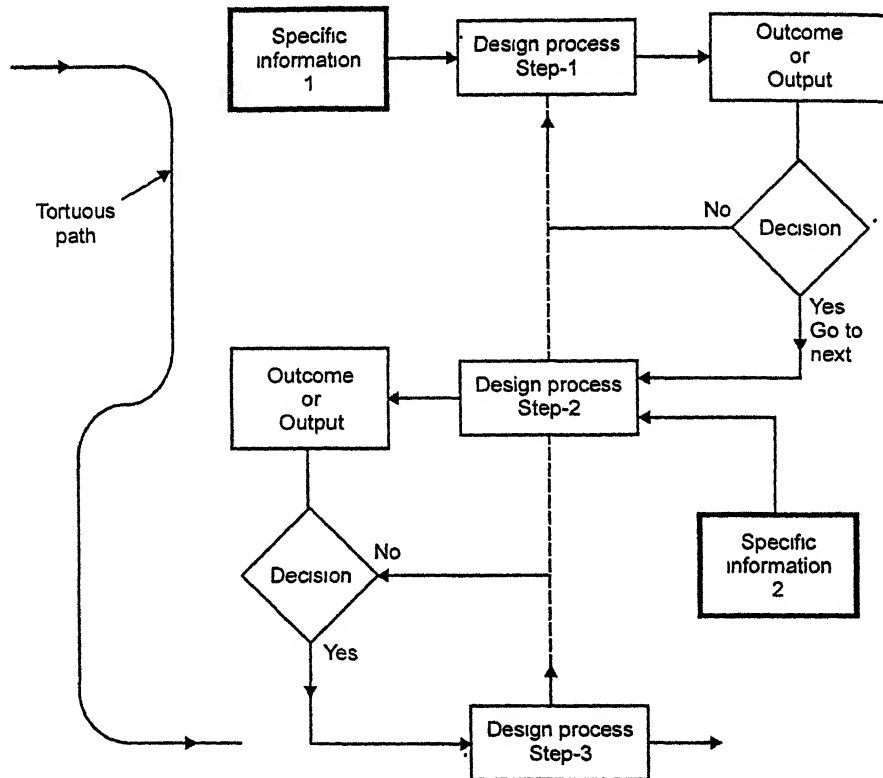

Fig. 1.6.
**Ans.** The design process is an iterative process comprising of information input, design process, decision-making and output as shown in Fig. 1.6. From the figure it may be observed
that at each step there is *vertical downward movement* whereas within a step there is *lateral flow along* the flowchart. Thus a horizontal flow combined with a vertical movement between steps lends the design process a *fortuous or spentine path*. For example, in Fig. 1.6. Process step-1 could be “*Need analysis*”; Step-2 could be “*System identification*” and Step-3 could be “*Design concepts*” whereas specific information (1) would be “*market information*” and information (2) would be “*Technical information*”.